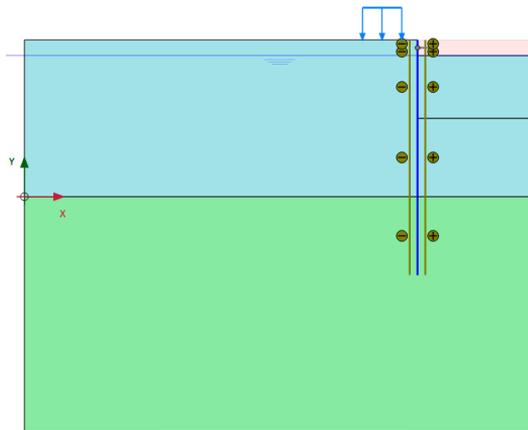

Figure 2.10 Model view for the first excavation phase
- In the drawing area right-click the top right cluster and select the *Deactivate* option in the appearing menu. Figure 2.10 displays the model for the first excavation phase.